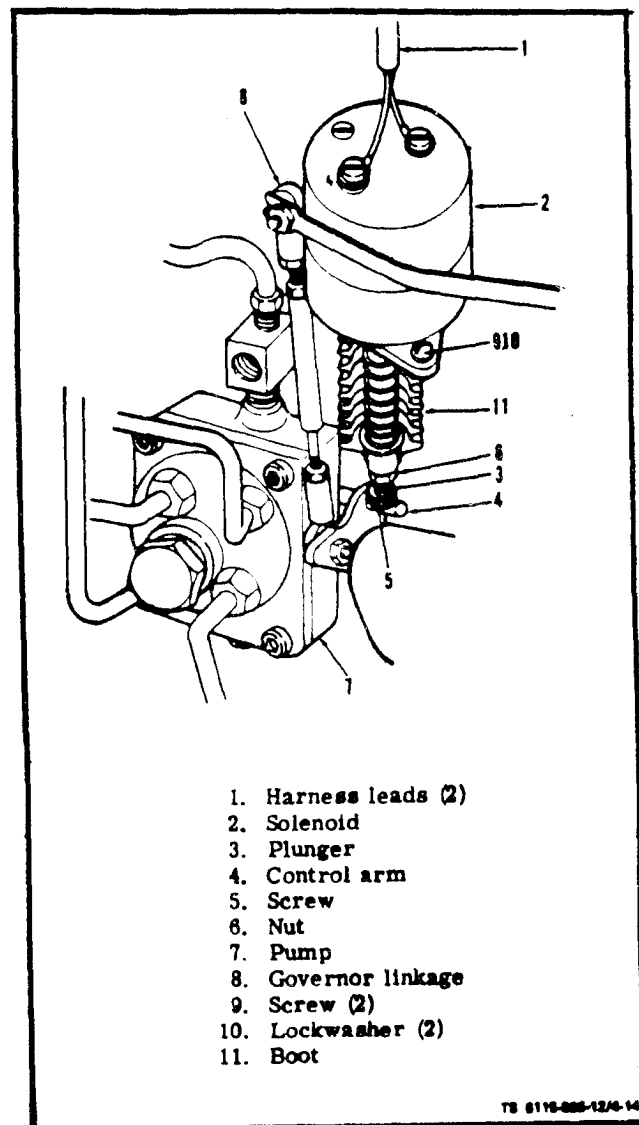
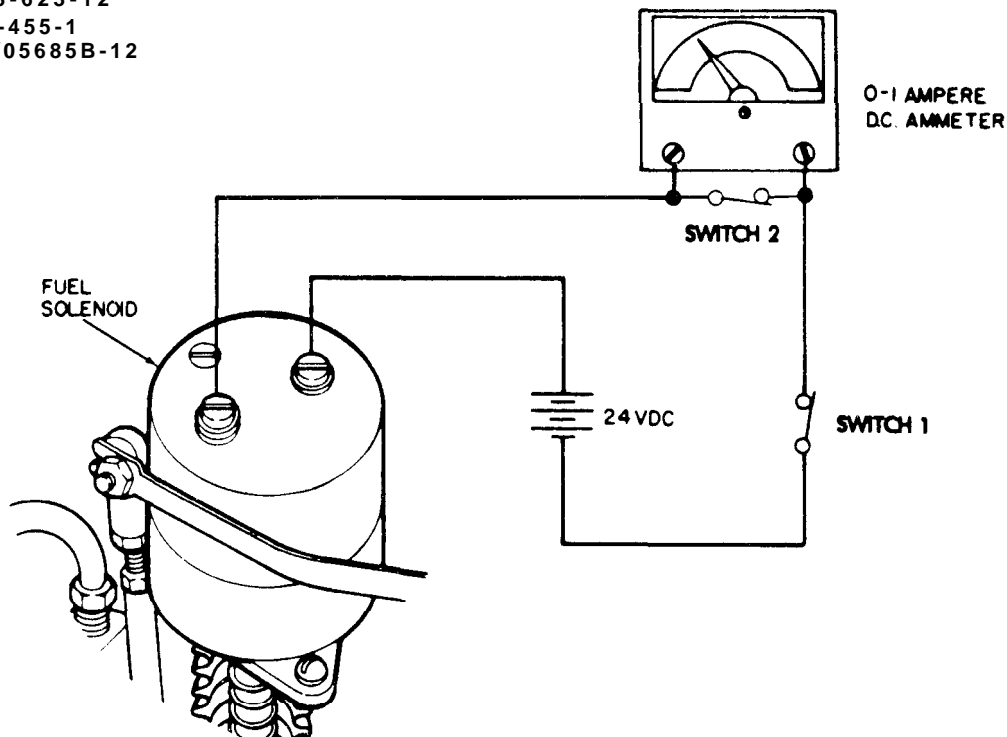

Figure 4-14. Adjusting Fuel Shut_Off Solenoid
Figure 4-15. Fuel Solenoid Test Set-Up.
a. Inspect (on Equipment) (see figure 4-14). On ASK equipped generators, remove right panel assembly (para. 5-6). Check that electrical connections (1) are secure and clean. Check that rubber boot (11) is clean and not broken. Check that governor and pump linkage moves freely and is clean.
b. Test (on Equipment) (see figure 4-15).
(1) Tag and remove the solenoid harness leads (1). Figure 4-14.
(2) Connect the solenoid into test setup (figure 4-15).
(3) With switch (S1) closed the plunger should actuate and the current draw should be 0.25 ampere dc.
(4) If plunger does not actuate or if meter reads above 0.35 amperes replace solenoid.
c. Remove (see figure 4-14). Tag and disconnect harness leads (1). Remove the shut-off solenoid by removing screws (9) and lockwashers (10).
d. Installation. Mount shut-off solenoid using screws (9) and lockwashers (10). Reconnect previously tagged and removed harness wires (1).
e. Adjust. The solenoid plunger (3) should be adjusted so it fully stops injection when in the deenergized position. With engine running at full rated load, clearance between plunger (3) and control arm (4) should be at least 1/8 inch. To adjust the plunger length, loosen jam nut (6) on bottom of plunger. Turn knurled headscrew (5). Lock jam nut (6) after correct adjustment. On ASK equipped generators, install right panel assembly (para. 5-6).